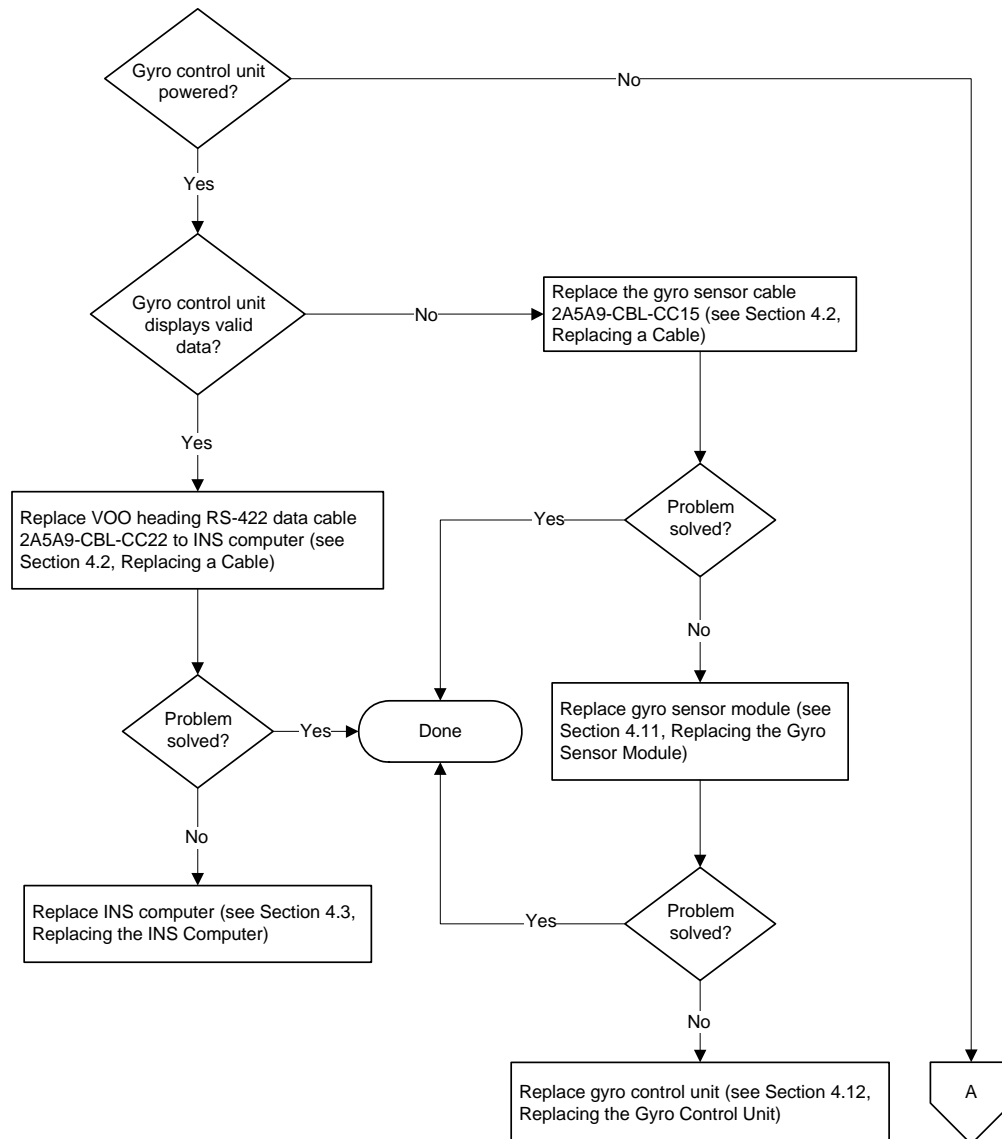
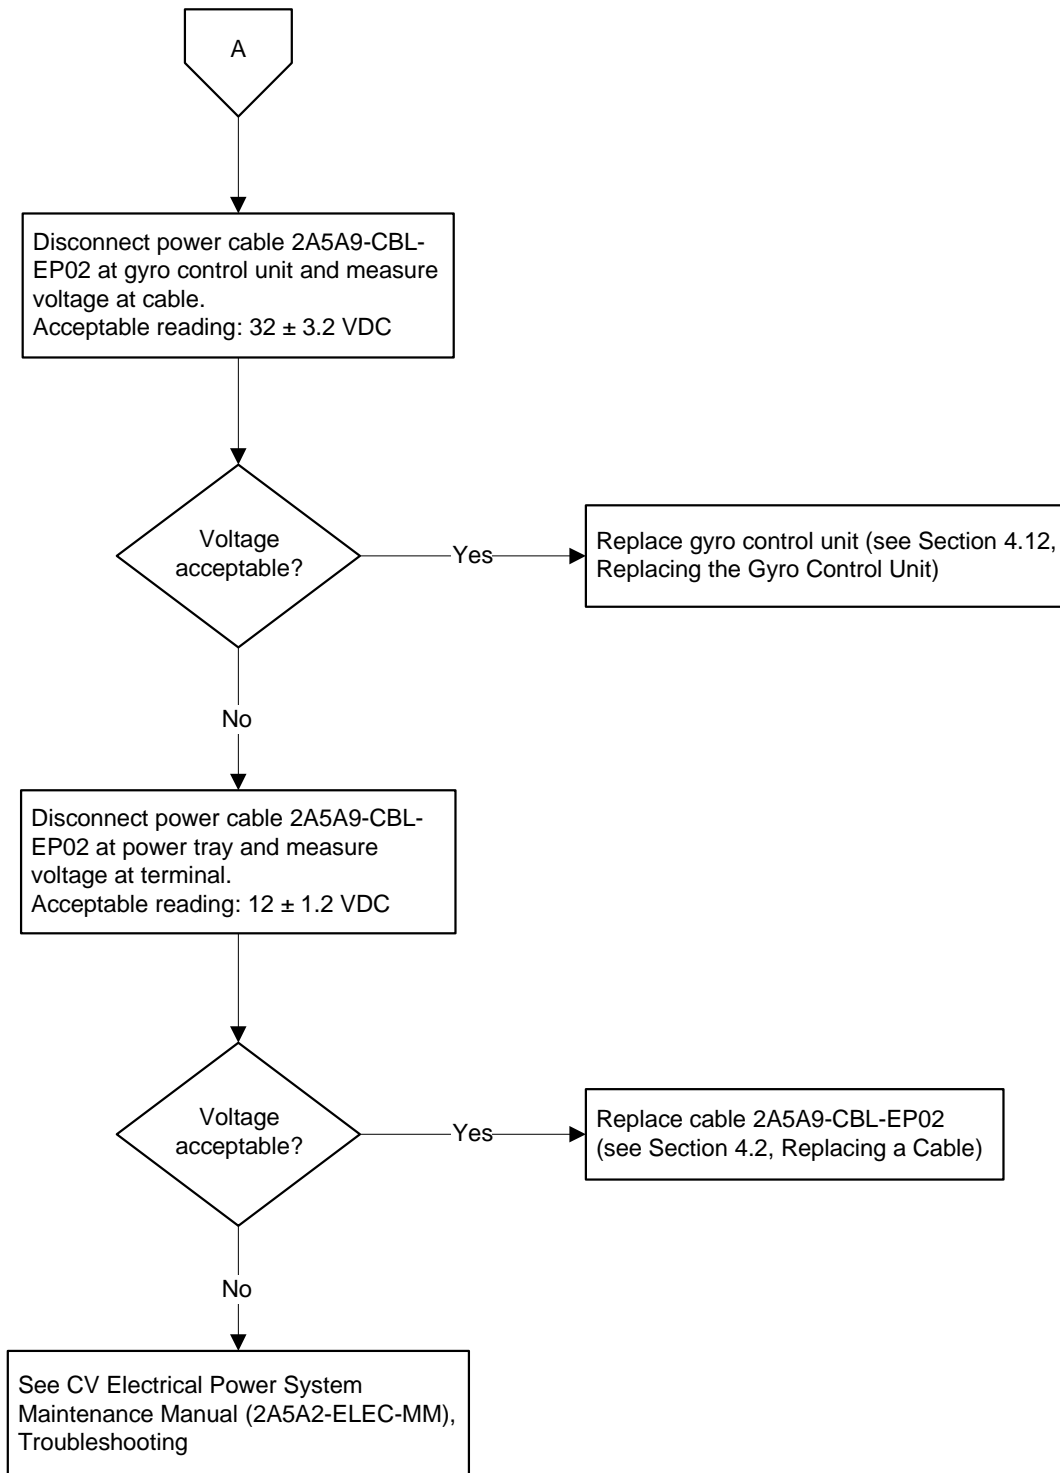

Figure 8 Troubleshooting – INS Computer is not Communicating with Gyro Control Unit – Sheet 1
Figure 9 Troubleshooting – INS Computer is not Communicating with Gyro Control Unit – Sheet 2
- Follow the troubleshooting steps in Figure 8 and Figure 9.